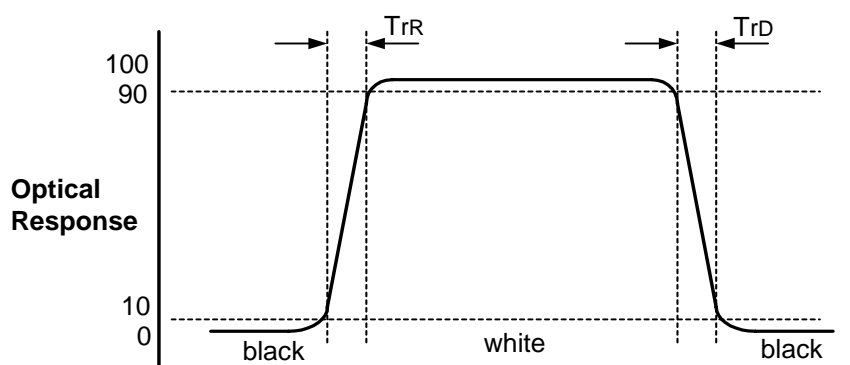

FIG. 3 Response Time
4. Response time is the time required for the display to transition from white to black(Rise Time,  $Tr_R$ ) and from black to white(Decay Time,  $Tr_D$ ). For additional information see FIG 3.